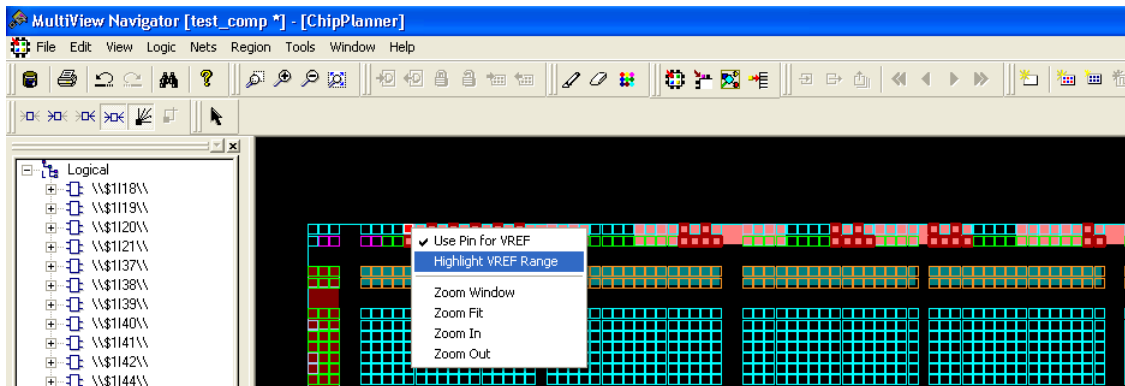

Figure 9-14 • VREF Range
4. Right-click and then choose **Highlight VREF range**. All the pins covered by that VREF pin will be highlighted (Figure 9-14).